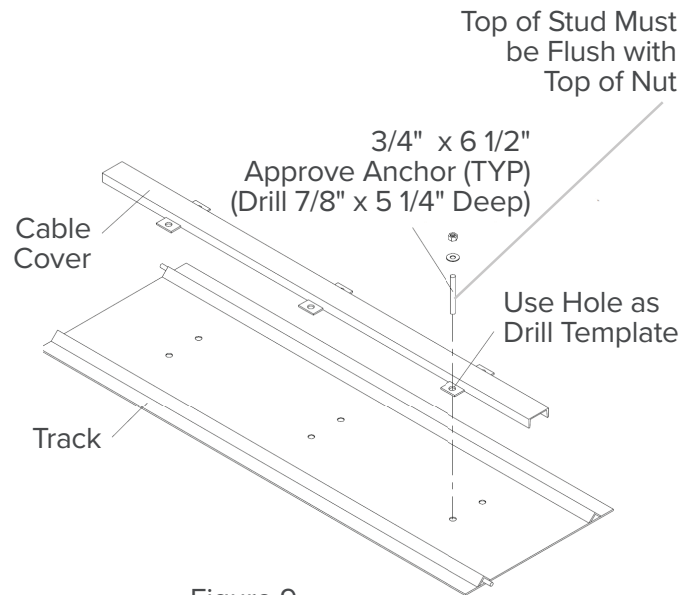

Figure 9
- 2. Assemble the cable covers and anchor the track sections** (Figure 9). Using the holes in the tracks as a template, drill six holes 5 1/4" deep in the foundation for each track section. Align the anchor holes, and check that there is a smooth transition from section to section where the ends touch. Place the longer track covers with rubber bumpers toward the ends closest to the existing barrier. Anchor the cable cover and track sections with adhesive and consult manufacturer's instructions for cure times before tightening nuts.